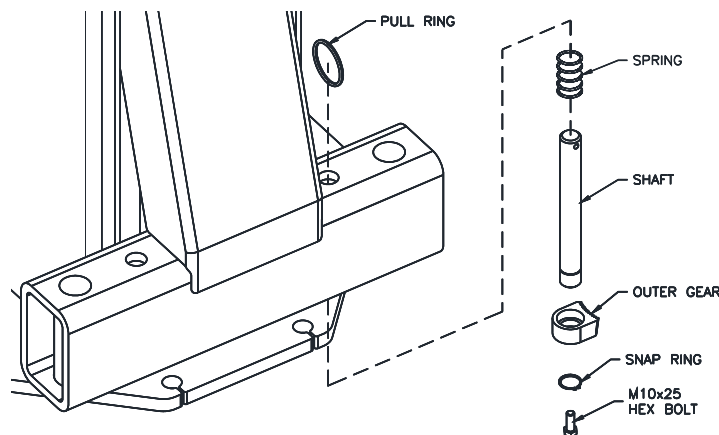

Fig. 19-Arm Restraint
- 58) Arm restraint assemblies should be installed on carriage as shown in **Fig. 19**.